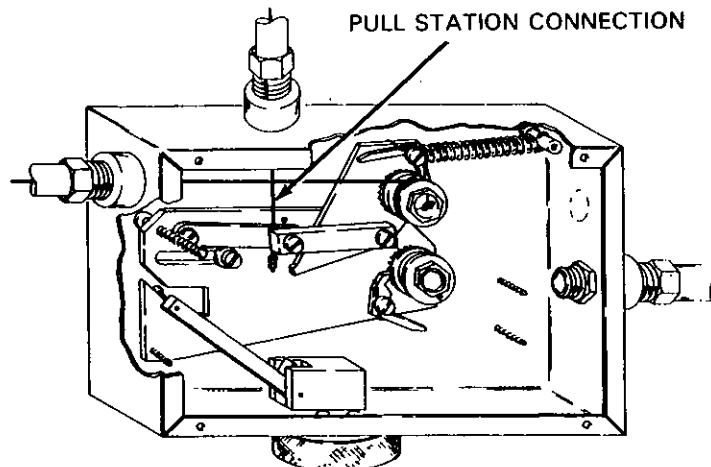

Figure 4-3. Control Head, Remote Pull Station Control
3. Remote Manual Actuation (Pull Station) — The control head can be operated remotely using the Pyro Chem Model RPS-M manual pull station. This pull station is connected to the control head using 3/64 or 1/16 inch diameter wire cable. This cable enters on the top center of the control head. (See Figure 4-3).